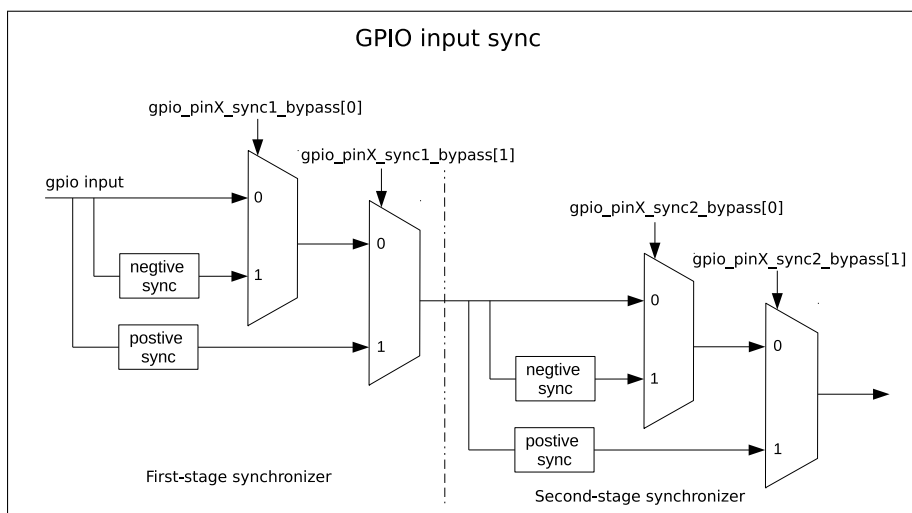

Figure 5-4. GPIO Input Synchronized on APB Clock Rising Edge or on Falling Edge
Figure 5-4 shows the functionality of GPIO SYNC. In the figure, negative sync and positive sync mean GPIO input is synchronized on APB clock falling edge and on APB clock rising edge, respectively.
- Set `GPIO_PIN x _SYNC1_BYPASS` to enable input signal synchronized on rising edge or on falling edge in the first clock, see Figure 5-4.
- Set `GPIO_PIN x _SYNC2_BYPASS` to enable input signal synchronized on rising edge or on falling edge in the second clock, see Figure 5-4.